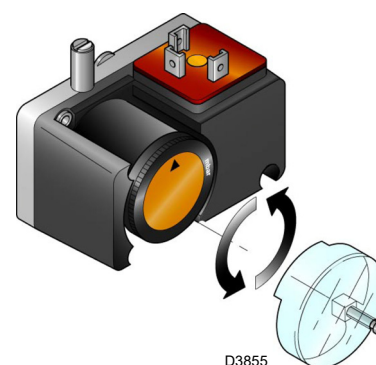

Fig. 34
- Adjust the pressure switch for the valve leak detection control device (PVP Kit)(Fig. 34 at page 32), if present, according to the instructions supplied with the Kit itself.
Adjust the pressure switch for the valve leak detection control device (PVP Kit) (Fig. 34), if present, according to the instructions supplied with the Kit itself.